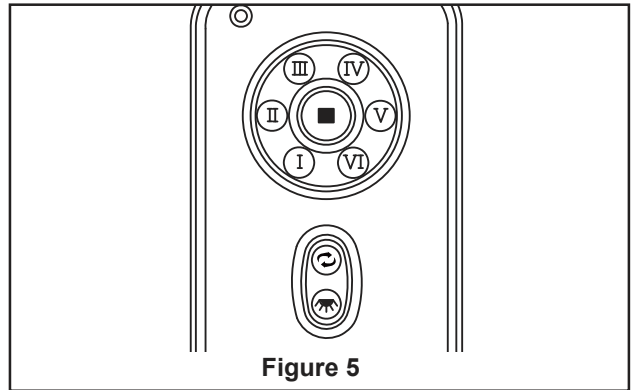

Figure 5
- 5. Secure the glass to light kit assembly by twisting in a clockwise direction. Do not over-tighten. (Figure 5)
5. Remote functions: (Figure 5)